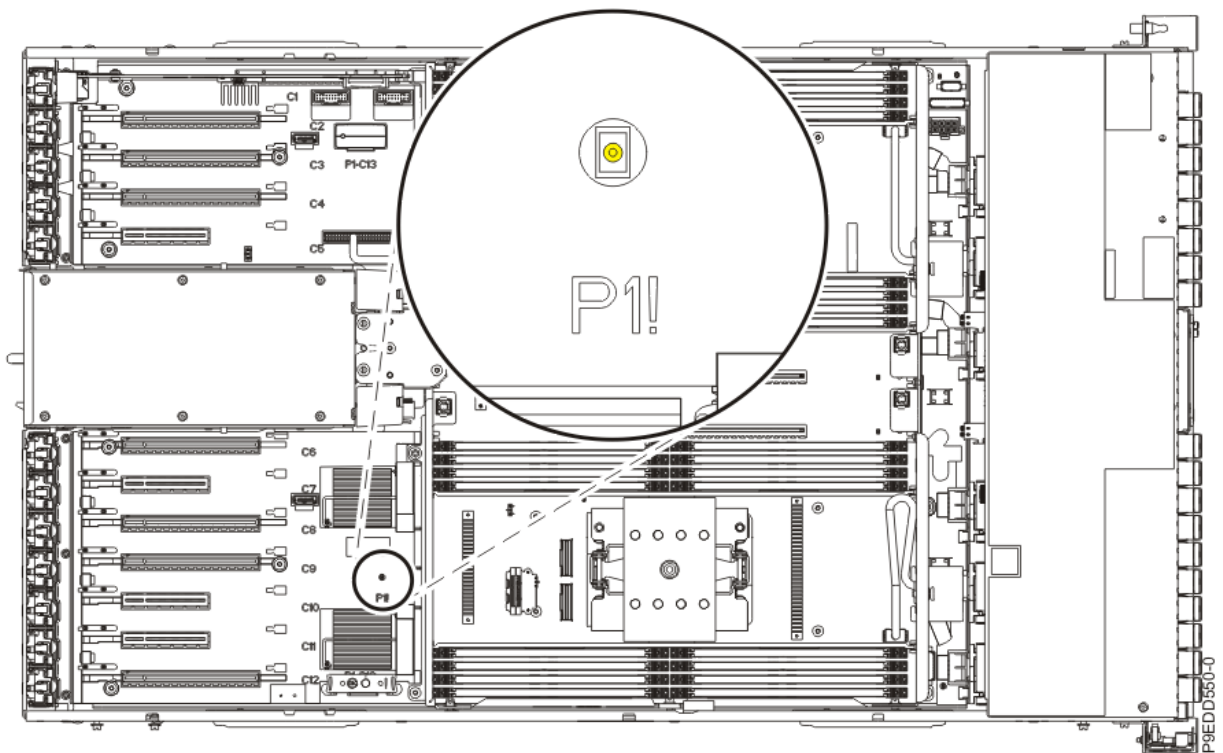

Figure 13. Service indicator LEDs
19. Look for the amber LED of the system backplane. See Figure 13 on page 16.